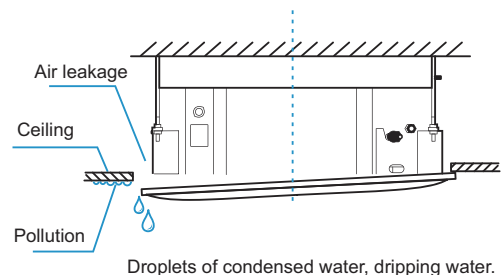

Figure 3.17
- Air and water leakages may result if the screws are too loose. See Figure 3.17.